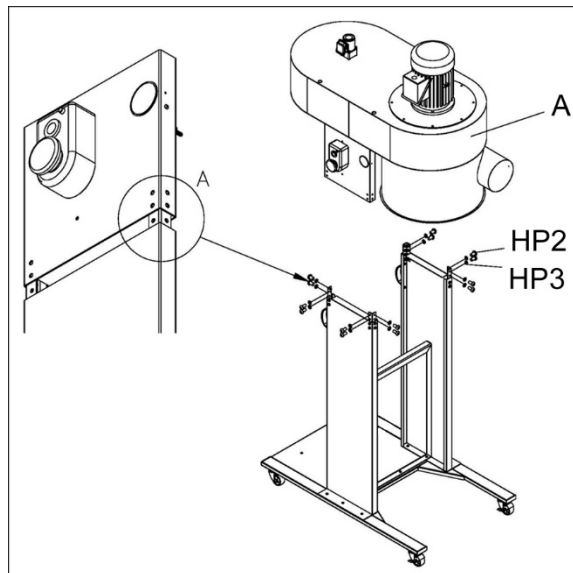

Figure 5-4
5. Lower main housing (A, Figure 5-4) onto angle supports and down onto stand panels. Secure with button head screws and washers (HP2/3). Tighten all securely.